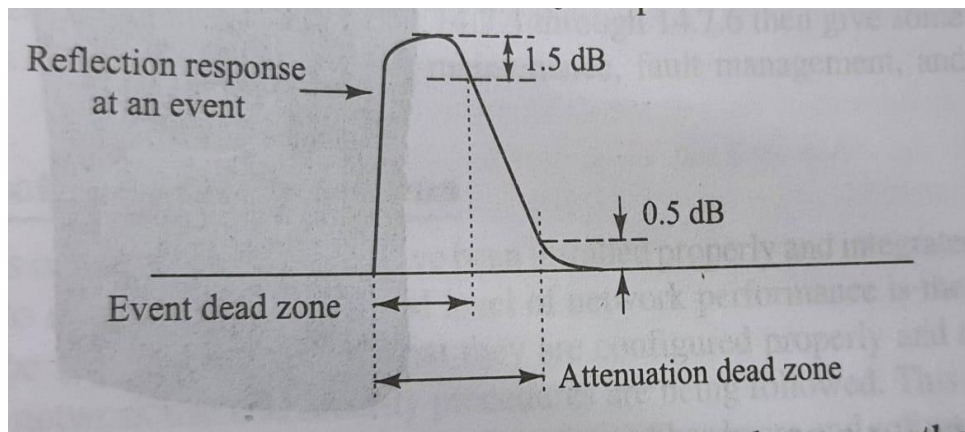

Fig 4. Dead zone
- **Event dead zone:** The importance of having the shortest-possible event dead zone allows the OTDR to detect closely spaced events in the link. If the dead zones are too long, some connectors may be missed and will not be identified by the technicians, which makes it harder to locate a potential problem. Typically vendors specify this event dead zone as the distance between the start of the reflection and -1.5 dB point on the falling edge of the reflection shown in figure.4.
0.5 dB backscattered value which can be seen from figure.4. Typical attenuation of dead zone ranges from 10 to 25 m.